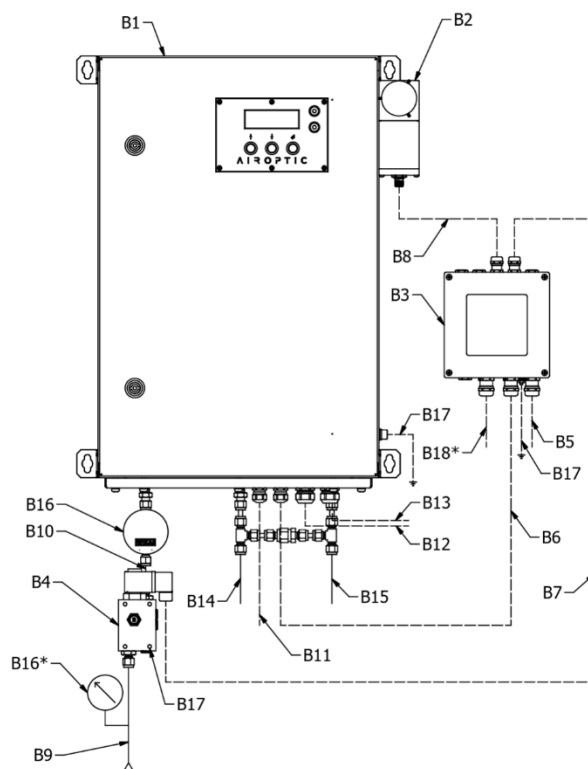

Figure 160. Overview of the purging system for GasEye Extractive system.
Table 65. Detailed explanation of the elements in the Figure 160.
1. Connect a 6 mm gas tube to the manifold block inlet 9 (number designation according to **Figure 160**). The length depends on the customer. Make sure there is no purge gas flow into the system until installation is complete and the purge controller is energized.